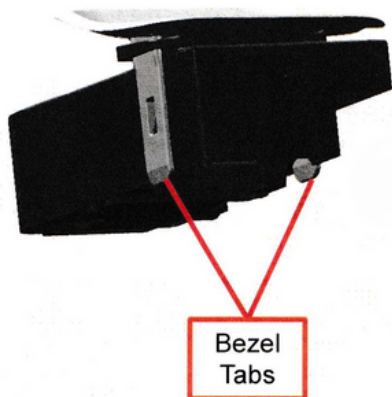

FIGURE 1
2. Remove the bezel by reaching under the top cover to release the bezel tabs. Push out and up on the tabs. *See Figure 1.*